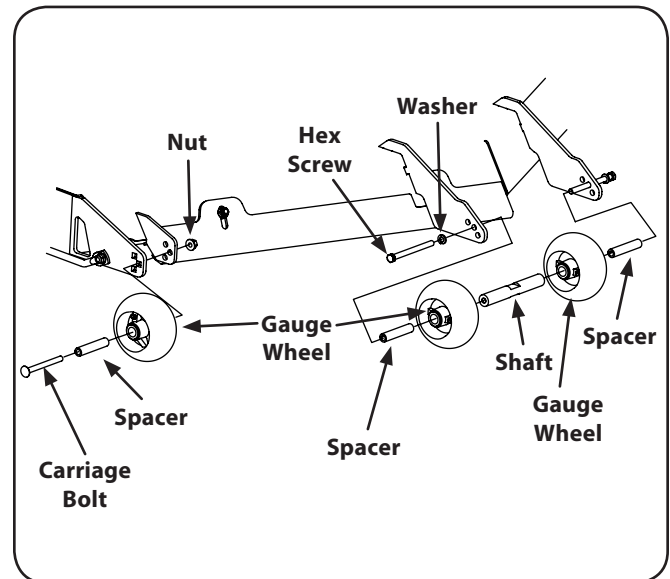

Figure 6-9
- Remove the lock nut securing one of the outer front gauge wheel shoulder screws to the deck. Remove the gauge wheel and shoulder screw. Refer to Fig. 6-9.